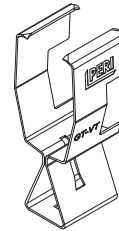

Fig. A4.07
- Flexclip VT20 \ VT20 (Fig. A4.07)
- Flexclip GT24 \ GT24 (Fig. A4.07)
- Flexclip GT24 \ VT20 (Fig. A4.07)